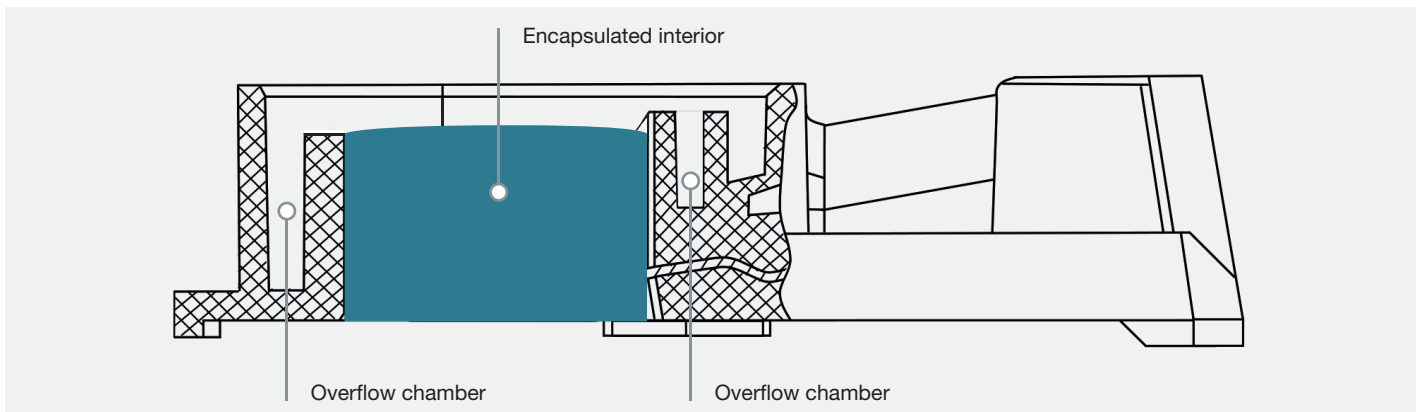

Figure 1: Sectional view of the drained junction box with socket
- ▶ **Figure 1 “Sectional view of the drained junction box with socket”**